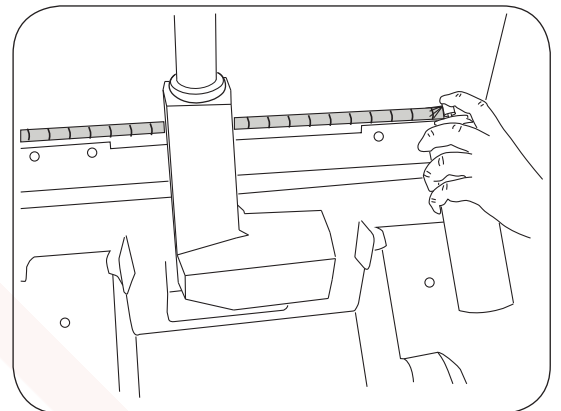

Figure 47. Lubricating the Backrest Hinge
- Lubricate moving parts (such as back and storage cover hinges) with a food grade silicon lubricant (Figure 47). Cover surrounding area to protect from overspray. Wipe away excess lubricant.
(Figure 47)**